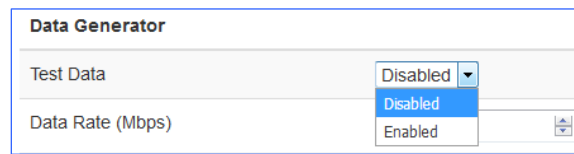

Figure 262: Data Generator, Test Data Drop Down Menu
- Test Data – Enable or disable test data generation, as shown in Figure 262